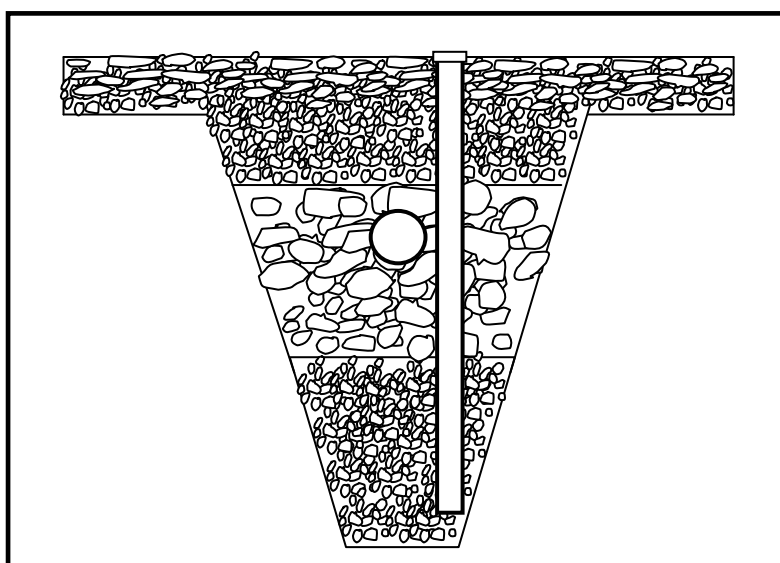

FIGURE 6.5
- Branch pipes (10)
6.5 FIGURE 6.5 below shows a cross section of a part of a sewerage system. Study the drawing and answer the questions that follow.
6.5.1 Identify the part of the sewerage system in FIGURE 6.5. (1)